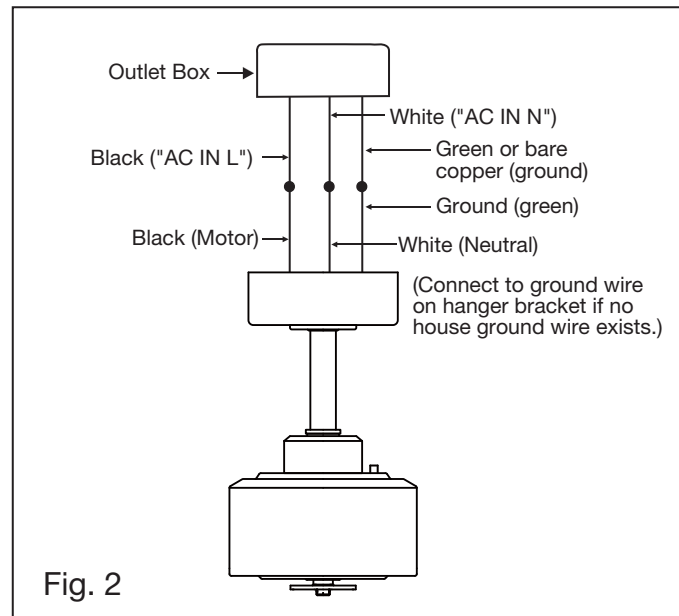

Fig. 2
- 3 Loosen the two security set screws and remove the downrod pin instead of hitch pin from the coupling on top of the motor assembly. (Fig. 2)
- 1 Connect the fan supply (black) wire to the black household supply wire as shown in Figure 2
- 2 Connect the neutral fan (white) wire to the white neutral household wire (Figure 2).
- 3 Fasten blade assembly to motor with provided screws and lock lockwashers by uses Blade Arm Wrench. (Fig. 1) Repeat procedure for remaining blades. Make sure screws are TIGHT! Loose motor screws can contribute to unnecessary hum during operation. (Fig. 2)